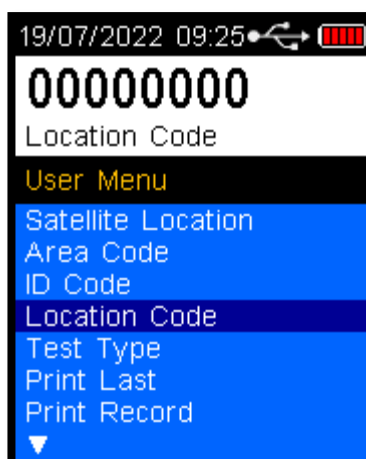

Figure 52 Location Code
- Repeat the above step until all the number required are displayed (Refer Figure 52).